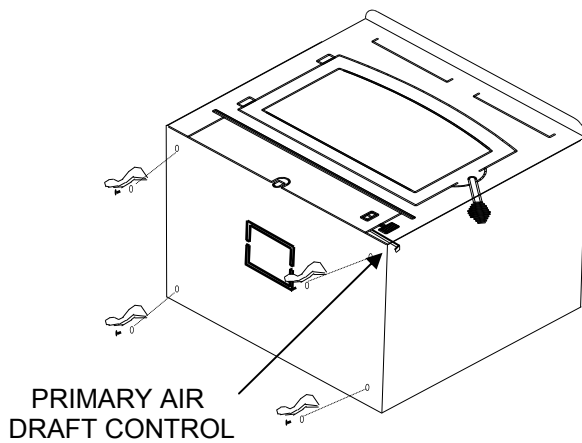

Figure 20
3. Check the primary air draft control to ensure that it slides freely.(See Figure 20).
6. Then obtain four legs, attach the legs to holes in bottom of unit with bolts and washers supplied with the leg kit. (See Figure 20).